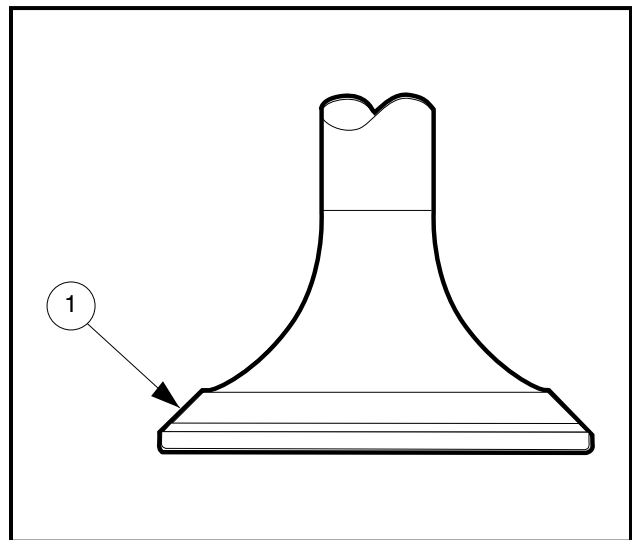

Figure 3-23 Valve Head Seating Area
1. Inspect the valve head seating area (1) for erosion, nicks and warping, etc. (**Figure 3-23, Page 3-13**). See following NOTE.